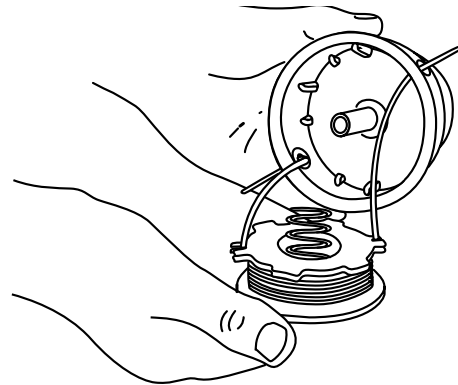

Fig. 25
9. Place the spring in the inner reel. Insert the ends of the line through the eyelets in the outer spool and place inner reel inside the outer spool (Fig. 25). Push the inner reel and outer spool together. While holding the inner reel and outer spool, grasp the ends and pull firmly to release the line from the holding slots in the spool.
5. Place the spring in the new inner reel. Insert the ends of the line through the eyelets in the outer spool (Fig. 25).